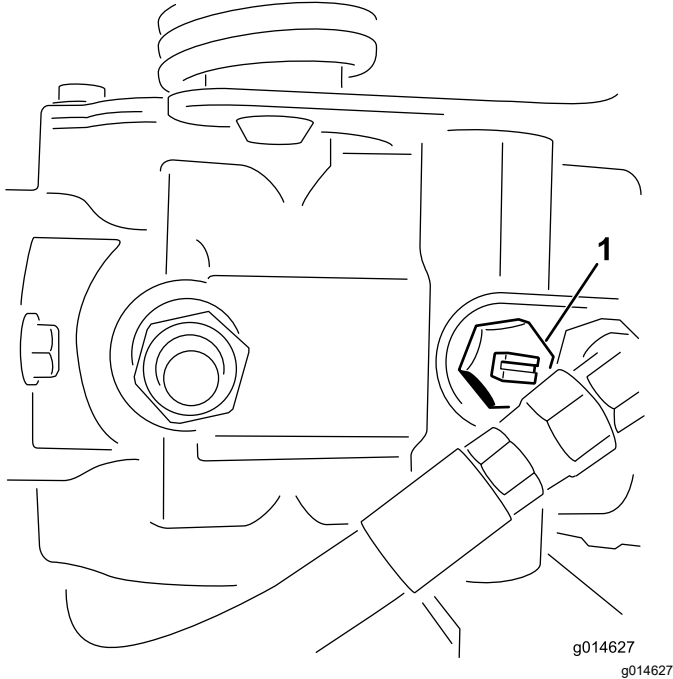

Figure 27
1. Locate the bypass valve on the pump and rotate it so that the slot is vertical (Figure 27).
2. Before starting the engine, close the bypass valve by rotating it so that the slot is horizontal (Figure 27).